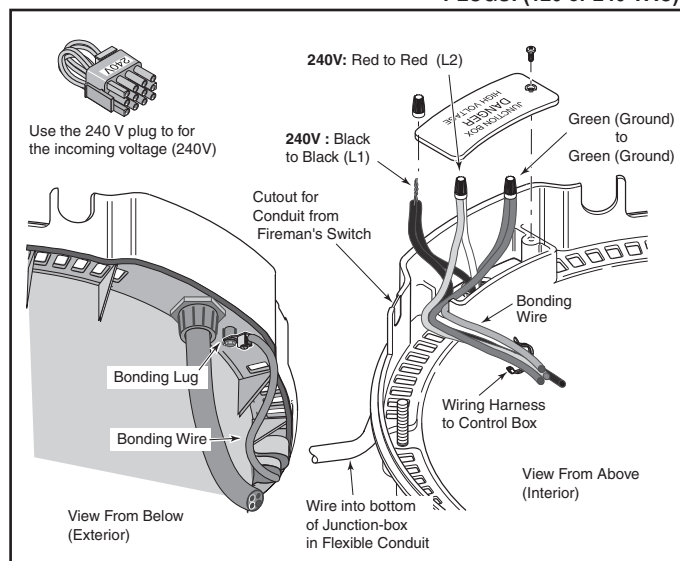

Figure 27.
- Connect the **L1** of the power supply to the **Black** wire, the **L2** or neutral lead to the **Red** wire, and the **Ground** wire to the **Green** wire. A time clock controlling the filter pump should have a low-voltage Fireman's Switch that switches off the heater at least 15 minutes before shutting off the pump, see Figure 27. Always use crimp type connectors when connecting two wires.